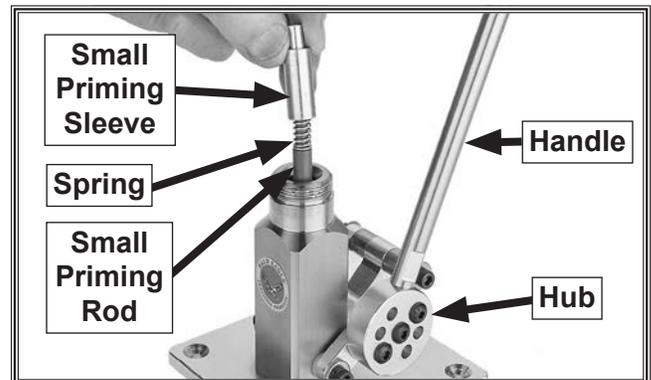

Figure 2. Installing small primer sleeve, rod, spring into priming press body.
1. Thread handle into hub (see **Figure 2**).
—If you plan to load small primers, install small primer rod, spring, and sleeve, as shown in **Figure 2**.